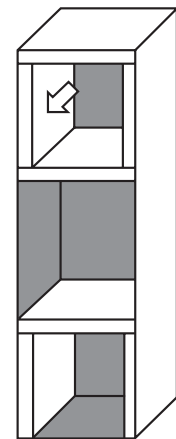

fig. 5
3. Install the TUFECOTE® TBK Faced Foam to the inside of the housing and over the vibration control tape (fig. 5).